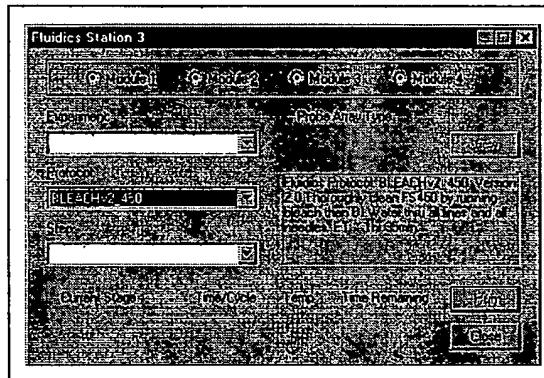

Figure 7.3
5. Open GeneChip Operating Software (GCOS). Click Run → Fluidics... from the menu. Alternatively, click the down arrow Protocol list on the toolbar. The protocol window appears (Figure 7.3).